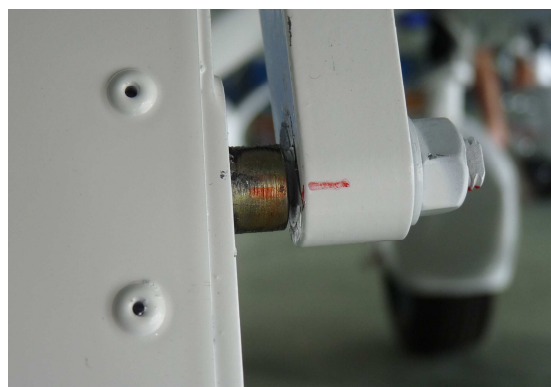

Fig. 3 – Marking of pin angular displacement position
1. According to Fig. 3 mark the position of pin angular displacement (the pin is eccentric). Carry out the marking with an indelible felt-tip pen by means of marks located against each other on the pin and on the lever.
4. Mark the position of angular displacement of each pin according to Fig. 3. Carry out marking by means of an indelible felt-tip pen, by marks located against each other on the pin and on the lever.